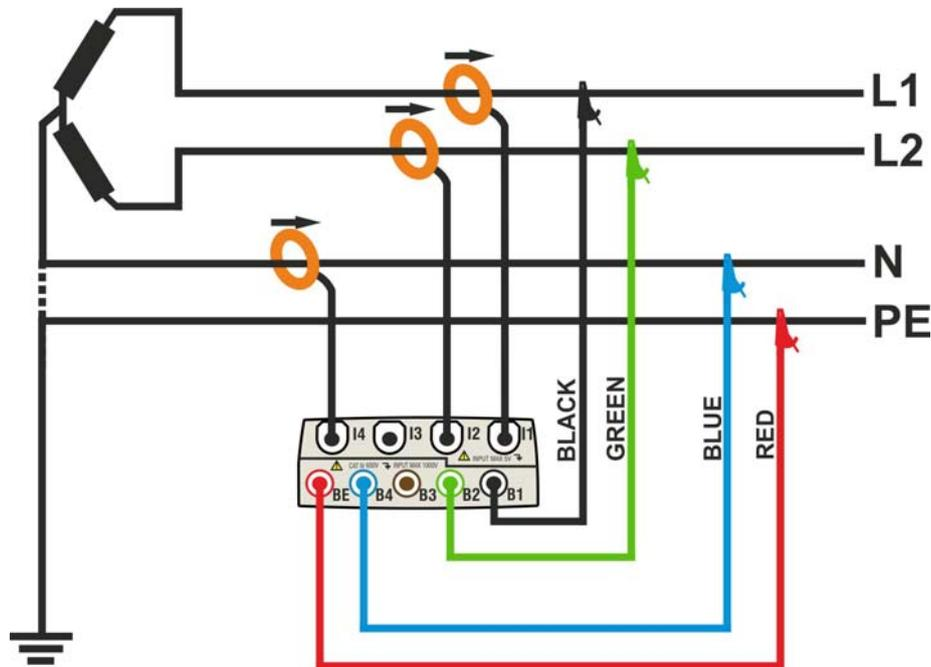

Fig. 171: Meter connection in a two phase 3-wire 3P2E system
2. Connect voltage test leads on Phases L1, L2, N and PE cables considering the colours as shown in Fig. 171
3. Connect the transducer current clamps on Phase L1, L2, N cables as shown in Fig. 171 respecting the clamp's arrow direction indicating the current standard sequence from generator to load. **On Real Time Values' section screens (selecting a 3 wire system preliminarily) always verify the positive value of Active Power and the power factor relative to load which should be normally inductive** before starting a recording. Reverse the clamp by 180 degrees on cables in case of negative readings.